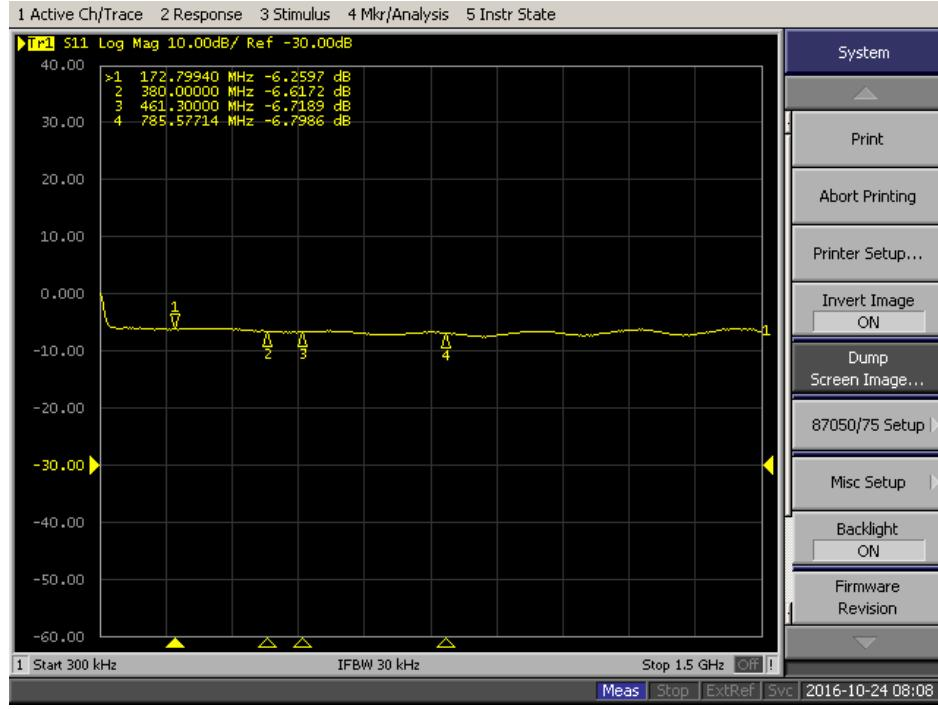

Figure 15: Ideal S11.
- Even without power, the S11, S22 trigger path, S22 signal path, and S21 signal path all have distinct gain patterns. They can be observed in figure 15,16,17, and 18. Therefore, you can actually check many of the necessary connections on the board without powering it on.